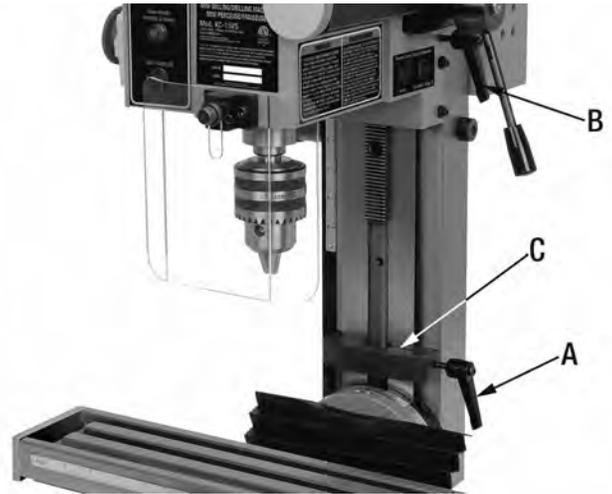

FIGURE 16
1. Loosen depth stop lock handle (A) Fig.16.
2. With the cutting tool installed in the chuck, lower the head until the bottom of the cutting tool reaches the desired depth of cut. Lock the head in this position using the head locking lock handle (B).
3. Raise the depth stop (C) up against the head and retighten lock handle (A).